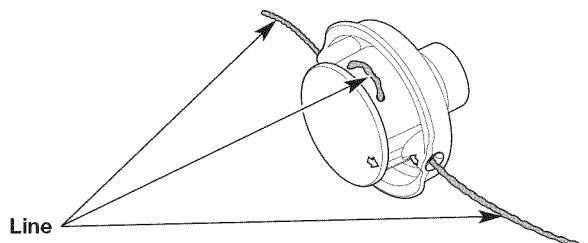

Fig. 18
- Pull the ends of the line until the line is tight against the cutting head. Make sure the ends of the line are of equal length (Fig. 18).